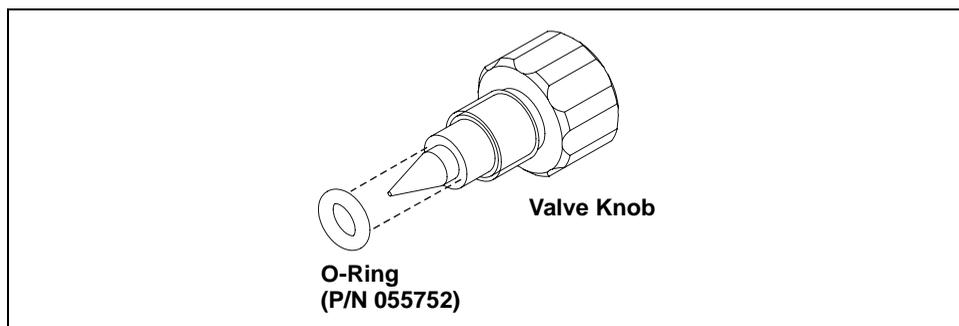

Figure 5-13. Waste Valve or Priming Valve O-Ring Replacement
- If the O-ring is removed with the valve knob in Step 3, pull the O-ring off the end of the knob (see Figure 5-13). If the O-ring is not removed with the valve knob, insert a thin object (for example, the bent end of a paper clip) into the cavity in the pump head and carefully pull out the O-ring. **Do not scratch the cavity.**